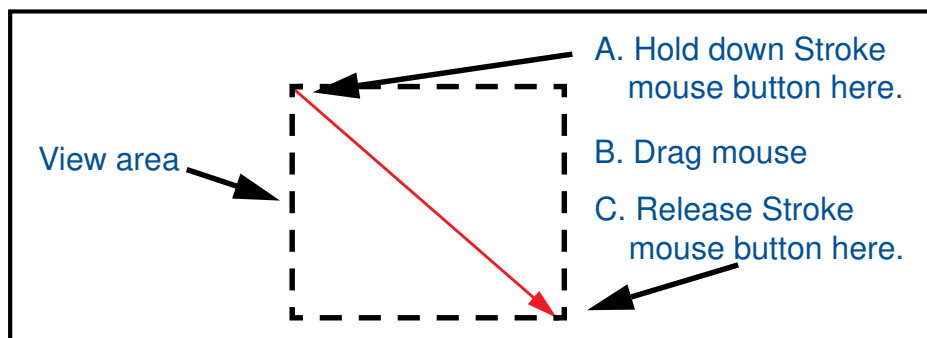

Figure 1-34. View Area Stroke (1-5-9)
2. Use the View Area and View All strokes to look at different areas of the schematic sheet. The beginning and end points of the View Area stroke define the viewing area, as shown in Figure 1-34.
2. View the area surrounding the CONTROL_PALS component on the left side of the schematic sheet using the View Area stroke. Refer to Figure 1-34 on page 1-40, if necessary.